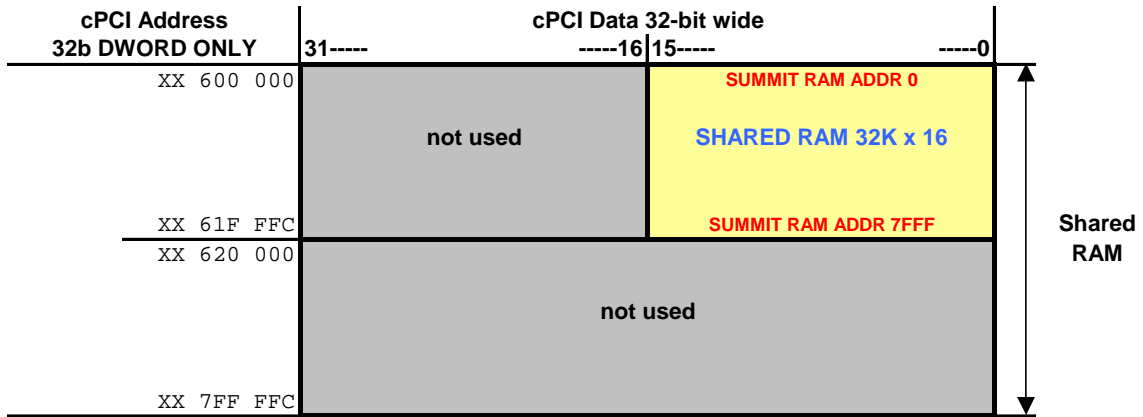

Figure 16 SUMMIT and cPCI Bus Shared RAM
4.2.2.18.4 1553 Shared RAM (Figure 16)